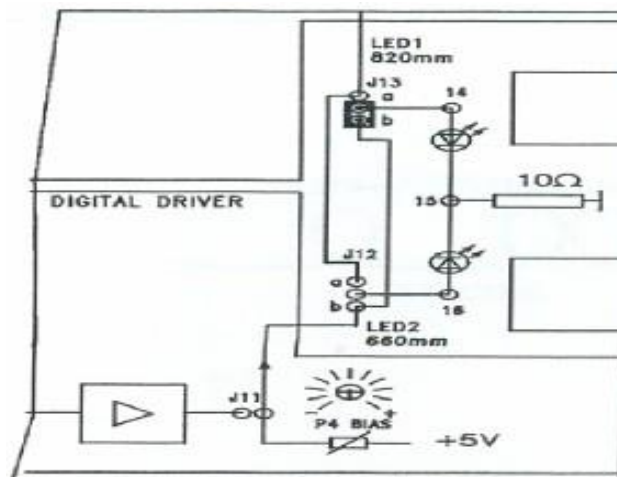

Figure 3.2: Connection Diagram
1. Disconnect the jumper j11-j12 if connected and connect the jumper j13b, so that circuit can be arranged as shown in figure 3.2. this configuration includes the LED at 820nm, forward polarized through the bias trimmer (p4)